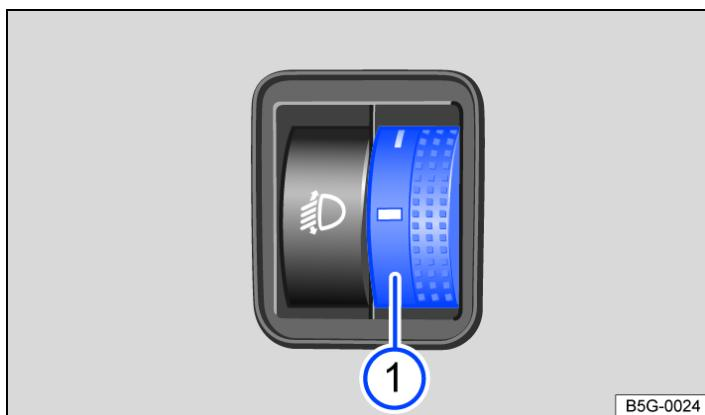
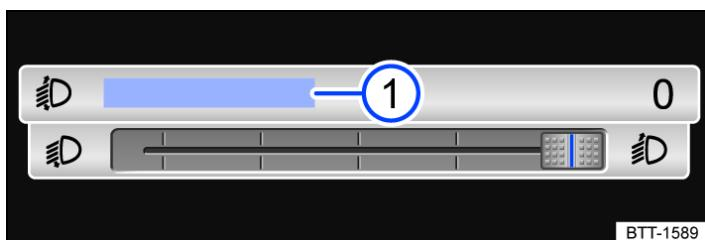

Fig. 1 Next to the steering wheel: control for headlight range control 1.
Fig. 2 In the Infotainment system: touch slider for headlight range control.
With some equipment levels, the headlight range can be adjusted either with the control → *Fig. 1* or with the touch slider in the Infotainment system → *Fig. 2*.
- Tap the function button **Headlight range control** → *Fig. 2* 1.
- Turn the control → *Fig. 1* to the required position (example vehicle load level).